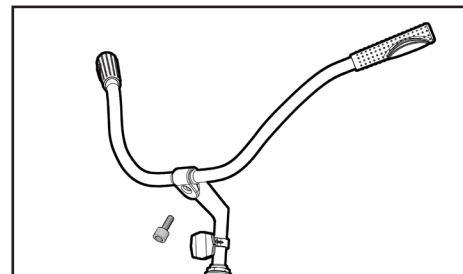

Figure 19
**⚠ WARNING:** Do not over tighten the stem bolt. Over tightening the stem bolt can damage the steering system and cause a loss of control. If necessary re-adjust the handlebar and tighten the handlebar clamp nut (see Figure 19).